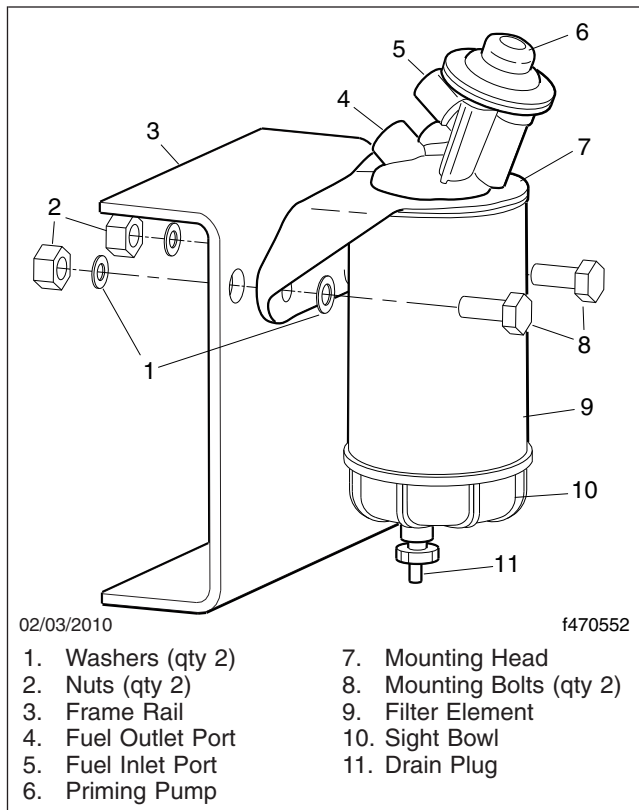

Fig. 20.10, Alliance Fuel/Water Separator Assembly and Installation
- 5.3 *Alliance/Racor Models:* Turn the drain plug counterclockwise to open it. See Fig. 20.10.